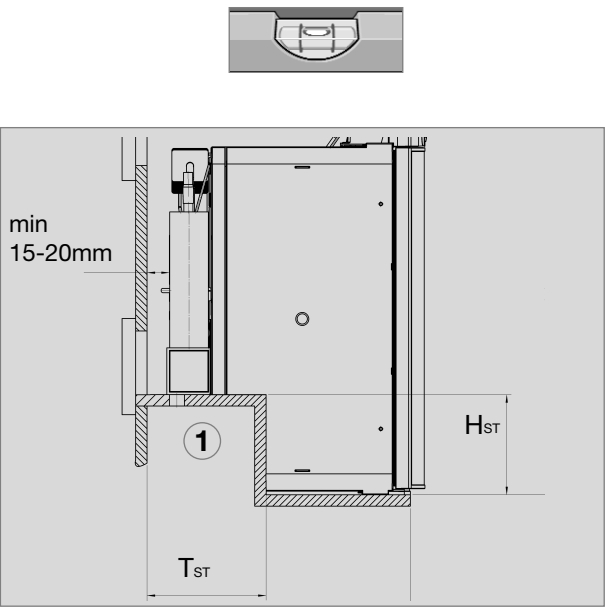

Fig. 26
The refrigerator must be installed draught-proof in a recess (also refer to Section "4.1.4"). The measurements of the recess are stated in the table below. **Step (1)** (Fig. 26) is only required for cabinets with a step. The floor of the recess must be level, allowing the appliance to be pushed easily into its correct position. The floor must be substantial enough to bear the weight of the appliance.